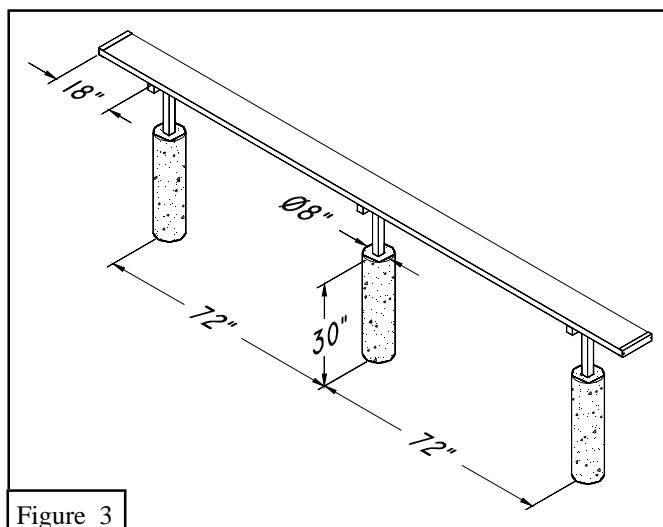

Figure 3
4. Locate and dig three 8'' diameter holes 30'' deep and 72'' apart from center to center. See Figure 3.